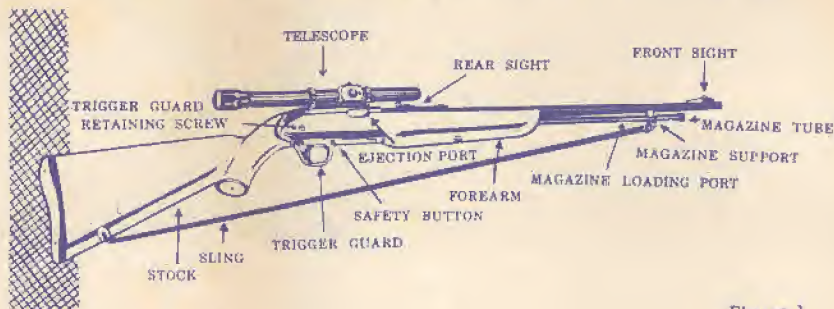

Figure 1
**TO ASSEMBLE J. C. HIGGINS 4-X TELESCOPE SIGHT TO RIFLE:** Engage mating slot on telescope mount with mating slot on receiver top with eye piece to the rear, slide forward against stop. Tighten scope mounting screw and gun is ready to fire. (See figure 1.)